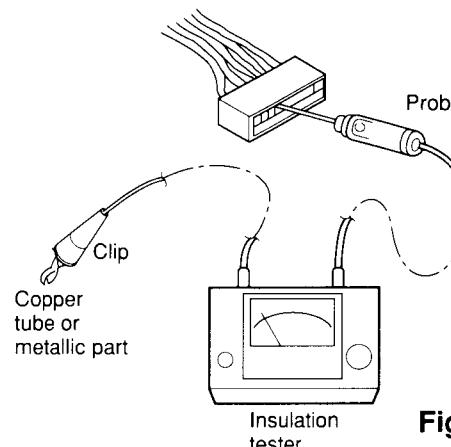

Fig. 46
④ Measurement of Insulation Resistance for Electrical parts
- Disconnect the connector of the desired electric part from terminal plate, P.C.B. A'ssy, etc. (Fig. 46)